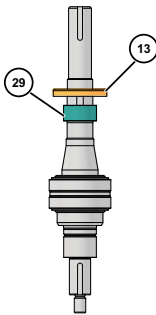

Figure 59 - Install Rear Seal
1. Install the gear spacers (Figure 59, item 29).
3. Install the oil seals with the spring facing out (Figure 59, item 13).